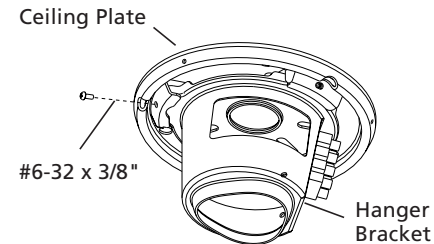

Figure 5b - Temporary installation of one #6-32 x 3/8" screw.
3. Rotate the hanger bracket until the three tabs on the hanger bracket are fully engaged in the three slots in the ceiling plate. See Figure 5b. Being careful to not allow the hanger bracket to rotate, temporarily install one of the three #6-32
x 3/8" screws through the hole in the ceiling plate and into the threaded hole in the hanger bracket to prevent the hanger bracket from rotating. See figure 5b.